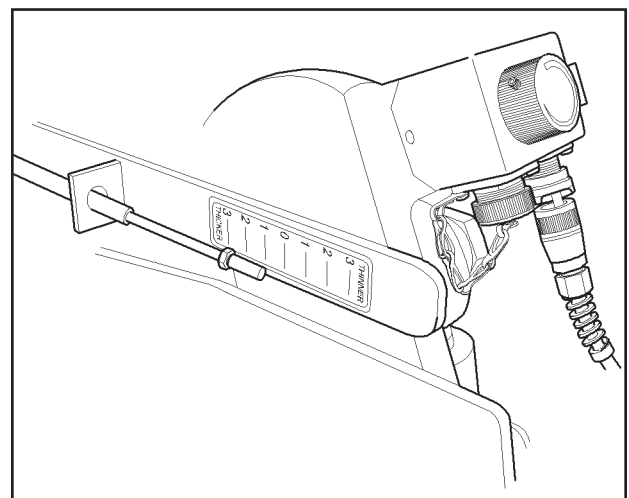

FIGURE 3-16. SONIC AUGER ADJUSTMENT
3. Adjust height of material at endgate with the sonic auger adjustment (see Figure 3-16). Turn the dial to keep the extension full. Be careful not to over run the extension with the material.